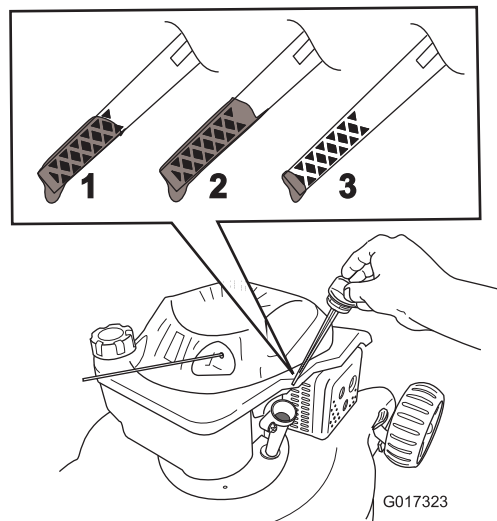

Figure 9
2. Remove the dipstick (Figure 9).
5. Remove the dipstick and read the oil level; refer to Figure 9.